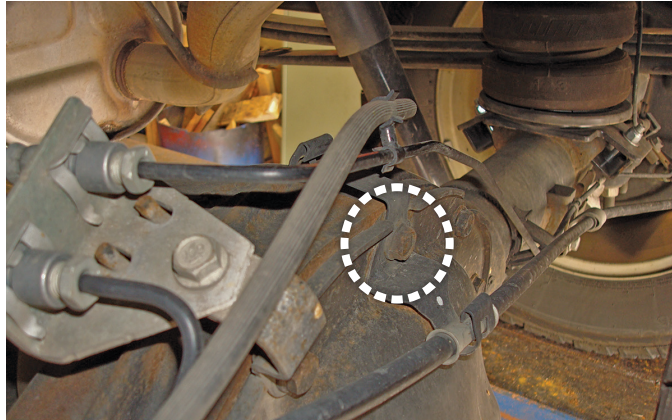

fig. 7
9. It will be necessary to relocate the emergency brake cable that is held by a bracket on the top of the axle center carrier section of the rear end (fig. 7).
10. Remove the top bolt that holds the emergency brake cable bracket onto the center section of the differential cover (fig. 7).
11. Remove the bracket from the emergency brake cable and discard (fig. 7).